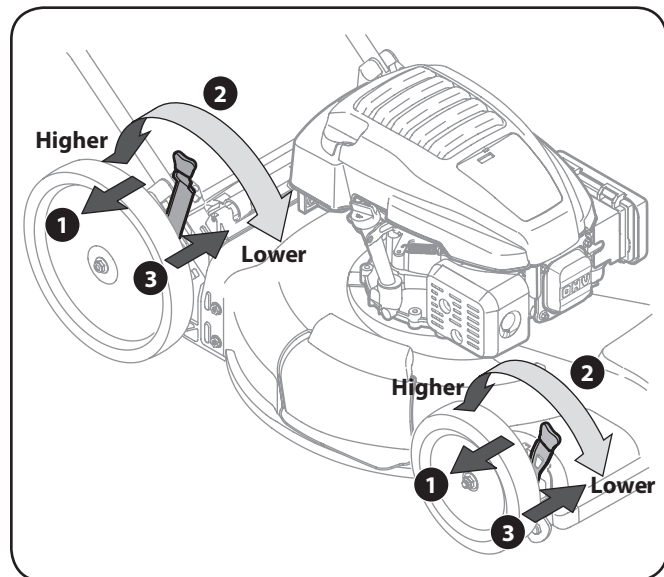

Figure 3-10
2. Slide lever to desired position for a change in cutting height. See Figure 3-10.